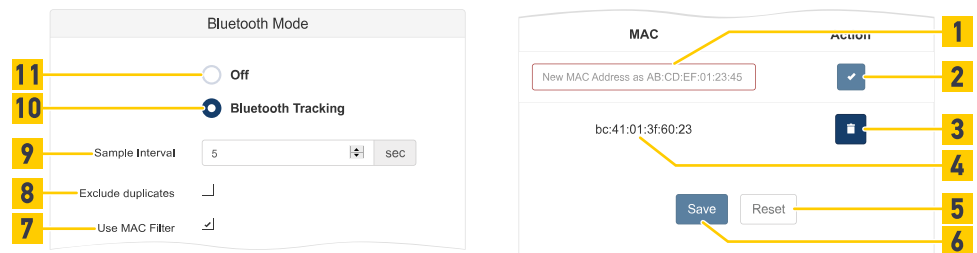

Fig. 134: Bluetooth Mode
- To track Bluetooth devices such as mobile phones choose the Bluetooth Mode Bluetooth Tracking (Fig. 134 /10).
- To deactivate the Bluetooth USB adapter choose the Bluetooth Mode Off (Fig. 134 /11).
- Set a Sample Interval (Fig. 134 /3). The value must be between 1 sec and 60 sec. The Sample Interval determines the time period after a scan is completed and transmitted. The scan rate is set internally.
- During a sample interval, a Bluetooth device can be detected more often. To get only one entry for each Bluetooth device, activate Exclude duplicates (Fig. 134 /8).
- To track only stored MAC addresses activate Use MAC Filter (Fig. 134 /7).
- By activating Use MAC Filter the editing of MAC addresses becomes visible. To add a MAC address set the address in the field (Fig. 134 /1) and click the accept button (Fig. 134 /2).
- To remove a MAC address from the list (Fig. 134 /4) click the delete button (Fig. 134 /3).
- To go back to the last saved settings click the Reset button (Fig. 134 /5).
- To save all the settings in the device click the Save button (Fig. 134 /6).